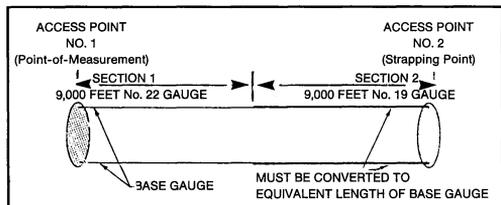

FIGURE 4
6.05 If distance-to-fault, as read by the instrument, is less than the length of base gauge, the answer is correct and no further calculation is required. If distance-to-fault is greater than length of base gauge, subtract base-gauge length from readout distance; convert the resultant figure to whatever gauge it happens to be — in Figure 4, the second section is #19 gauge.
*This figure, 13,464 feet in Figure 4, is readout directly by the 4912 — no calculation is required.
1. In Figure 4, the base gauge is #22; therefore, the 19-gauge section must be converted to the equivalent length of #22 gauge wire. Calculations are as follows:
With GAUGE switch set to 22 (base-gauge in Figure 4), the readout distance-to-strap is as indicated — 13,464 feet. Instead of 22, suppose GAUGE switch is set to 19. Now, the base-gauge is #19 and the #22 gauge wire must be converted to the equivalent length of #19 gauge. From Table 3, the conversion factor is 2.01; thus, $2.01 \times 9,000 = 18,090$ feet. Distance-to-strap, as read by 4912, = $9,000 + 18,090 = 27,090$ feet. Obviously, if the point-of-measurement and strapping-point are interchanged, the distance-to-strap, as measured by the 4912, also changes. After the first measurement is made (next step), it is desirable, if at all possible, to isolate fault to a section of single-gauge conductor. In this case, calculations and conversions are minimized.